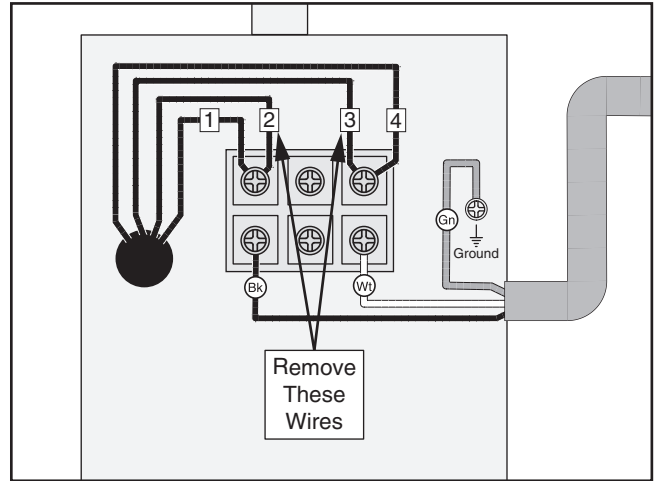

Figure 5. Motor prewired for 120V.
3. Disconnect wires 2 and 3 from terminal block (see **Figure 5**), then re-tighten screws.